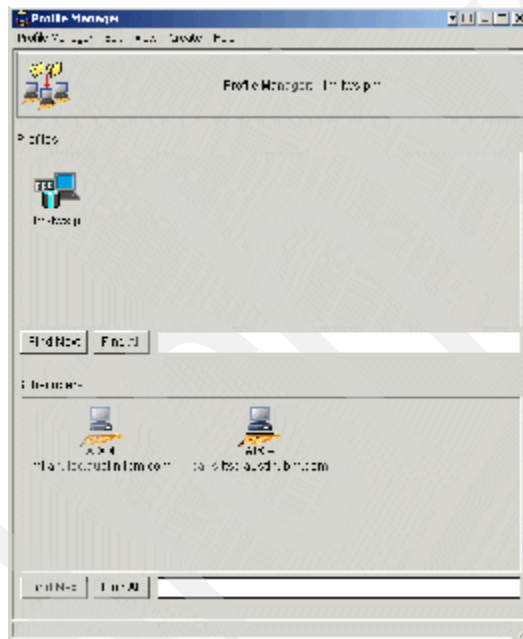

Figure 9-29 New profile in profile manager
3. Select **Create & Close**. The new profile object is placed into the Profiles section of the profile manager window as shown in Figure 9-29.